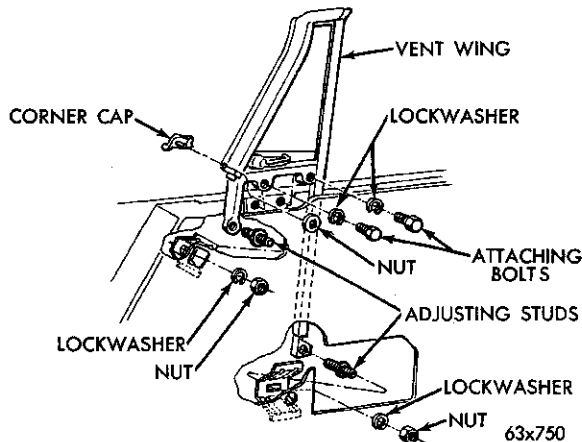

Fig. 76—Ventilator Adjustments (Chry. Hard Tops, Convertible, and Town and Country)
(1) Remove the inside handles, trim panel (disconnect the electric window switch if so equipped) and the weather shield.
(2) Remove the ventilator frame adjustment lock nut and washer, at the lower end of the ventilator frame division bar and run channel.
(3) Remove the ventilator frame attaching screws (Figs. 76 and 77).
(4) Run the door glass down and tip the ventilator assembly to the rear.
(5) Pull the ventilator assembly up and out of the door frame.